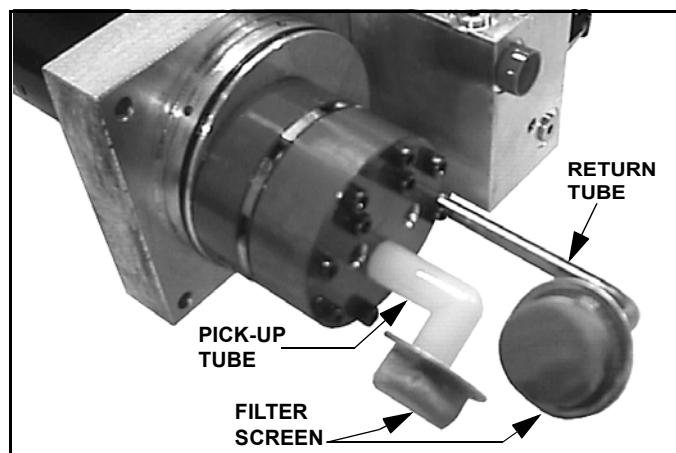

Figure 2-4
9. Loosen the band clamp, which holds the reservoir to the pump assembly. Pull and twist the reservoir until it separates from the pump assembly. Be careful not to damage the filter screen. (See Figure 2-4)
10. Note the position of the reservoir oil pick-up tube and be sure the tube is in the same position when the filter is removed and installed. (See Figure 2-4)
11. Pull the filter screens off the return and suction tubes (hold it by the metal cover, not the screen) and clean. Blow-dry with low-pressure air from the inside. (See Figure 2-4).
13. Visually check that the pickup tube and filter are in the proper orientation (See Figure 2-4). If not, rotate the pickup tube until the tube and filter are in the proper orientation.